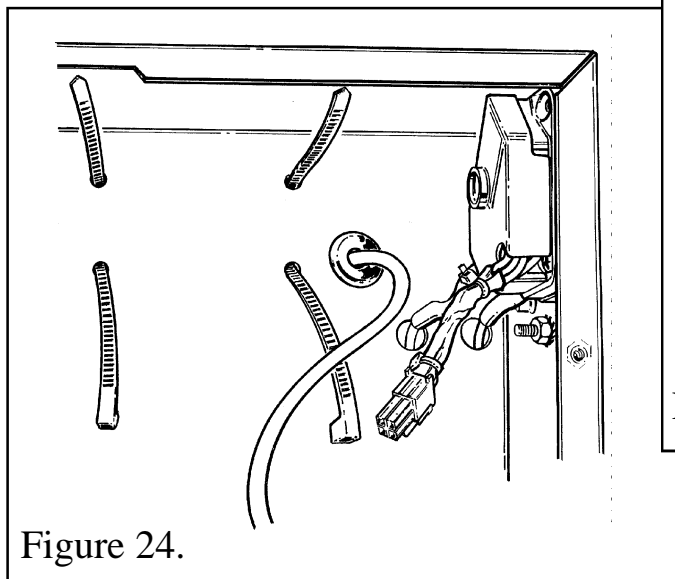

Figure 24.
9. Carefully draw the loom through the grommet until all excess cable length is contained within the fan compartment (See figure 24).